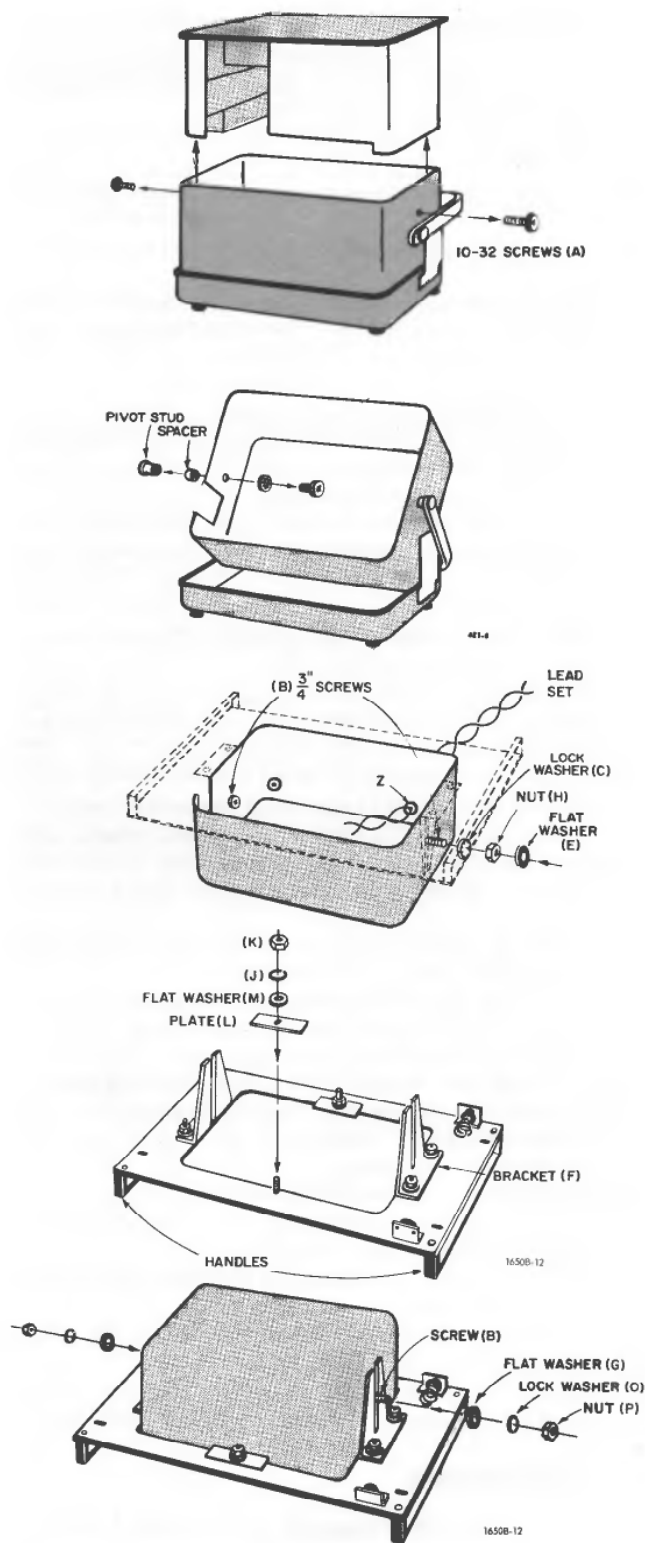

Figure 1-4. Rack mounting the 1650-B.
- b. Remove the two cabinet screws (Figure 1-4).
To mount the instrument in a rack adaptor panel, proceed as follows (Figure 1-4):